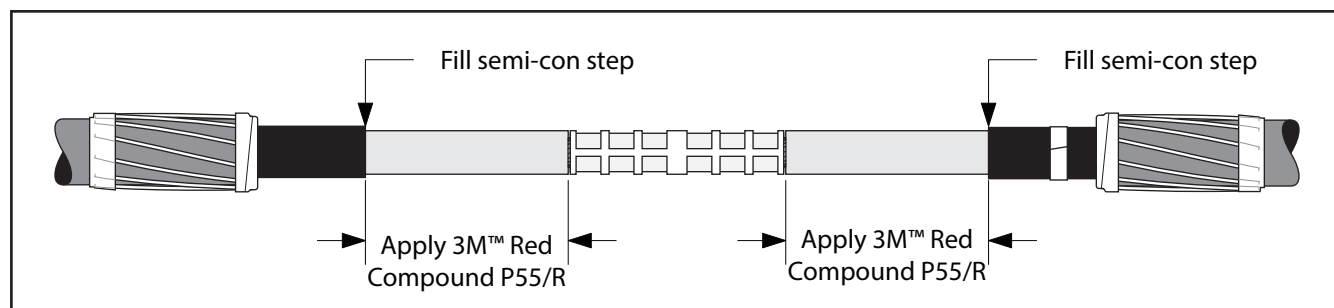

Figure 14
- 4.4 Apply 3M Red Compound P55/R on cable insulations, making certain to fill in edge of cable semi-con. **Do not use silicone grease** (*Figure 14*).